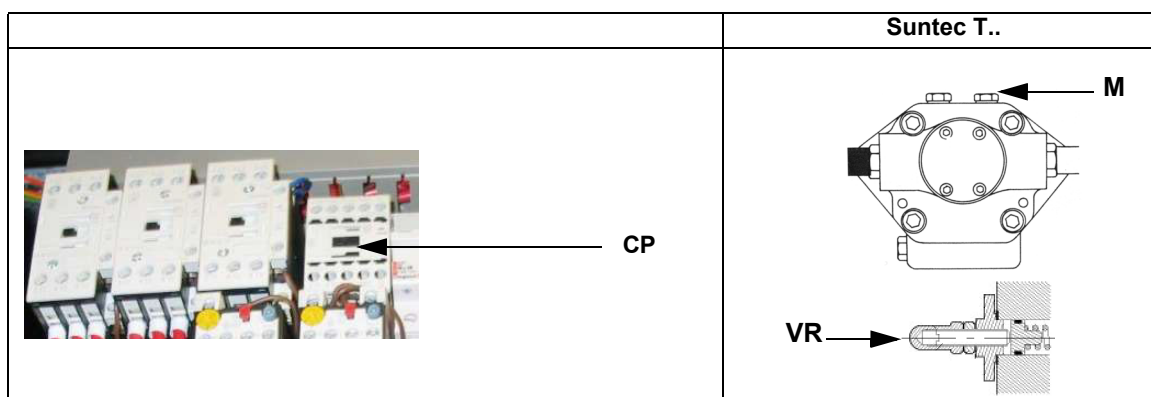

Fig. 14
- 3 bleed the air from the **M** pressure gauge port (Fig. 14) by loosening the cap without removing it, then release the contactor.
the nozzle supply pressure is already factory-set and must not be changed. Only if necessary, adjust the supply pressure as follows (see related paragraph); insert a pressure gauge into the port shown on Fig. 22 and act on the pump adjusting screw **VR** (see Fig. 14 and page 23) as to get the nozzle pressure at 25bar (according to the nozzle model provided- see page 37).